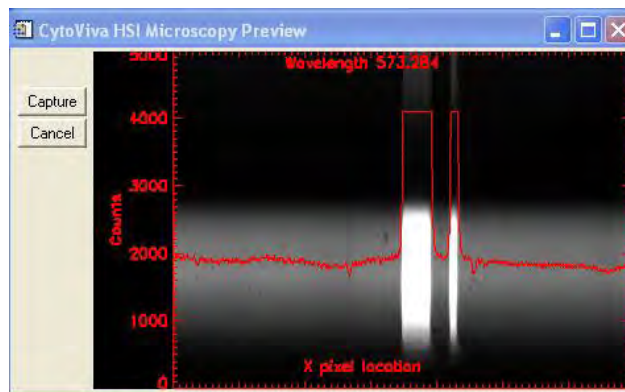

Figure 5. Intensity Plot showing "flat top"
6. Camera exposure: The intensity plot can be used to adjust the camera exposure. Begin by moving the brightest image features to the crosshair. If the exposure is too long, the intensities will be seen to "flat top" on the plot (see Figure 5). If this should occur, the camera is overexposed to these areas and data will be missing in the HSI image. If the exposure is too short, the spectral data will be noisy.